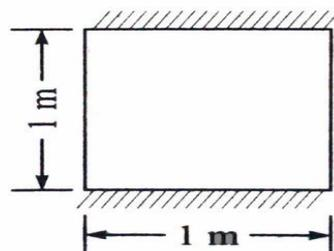

Fig.2
8. For the two dimensional body as shown figure 2, determine the temperature distribution. The left and right ends have constant temperatures of 200°C and 100°C respectively. Take $k=5 \text{ W/cm}^0 \text{ C}$. The body is insulated along the top and bottom. (15M)